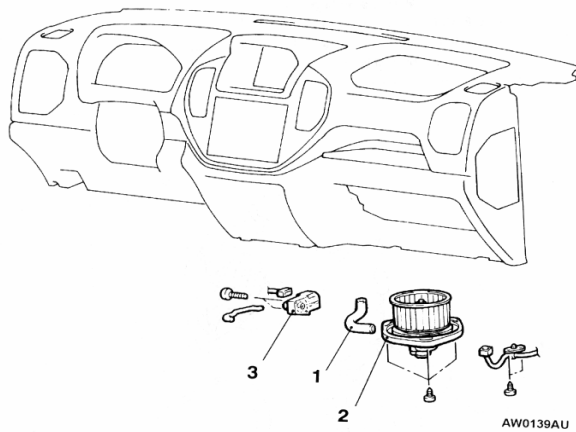

Fig.21-29
1) REMOVAL AND INSTALLATION (See Fig 21-29)